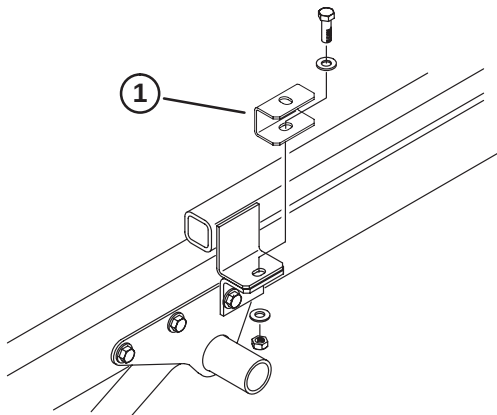

Figure 6
- Secure a spacer mount to top of each hitch frame tab with the capscrew, (2) flatwashers and locknut previously removed (Fig. 6).